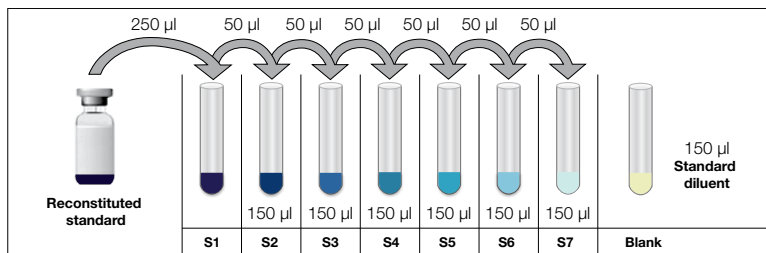

Fig. 3. Preparing a fourfold dilution series with a single reconstituted standard.
2. Add 150 μ l of standard diluent to tubes S2–S7 (Figure 3).
5. Continue with 1:4 (fourfold) serial dilutions as shown in Figure 3.